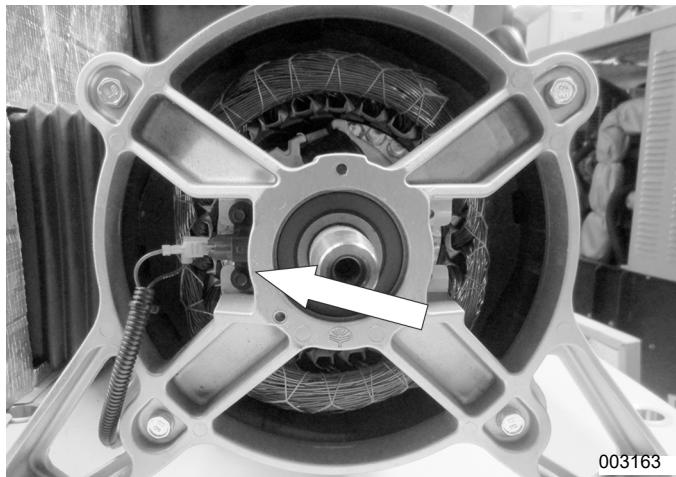

Figure 4-51. Brushes Location
- 19. Remove Brushes:** See Figure 4-51. Use a 7 mm socket to remove brushes.